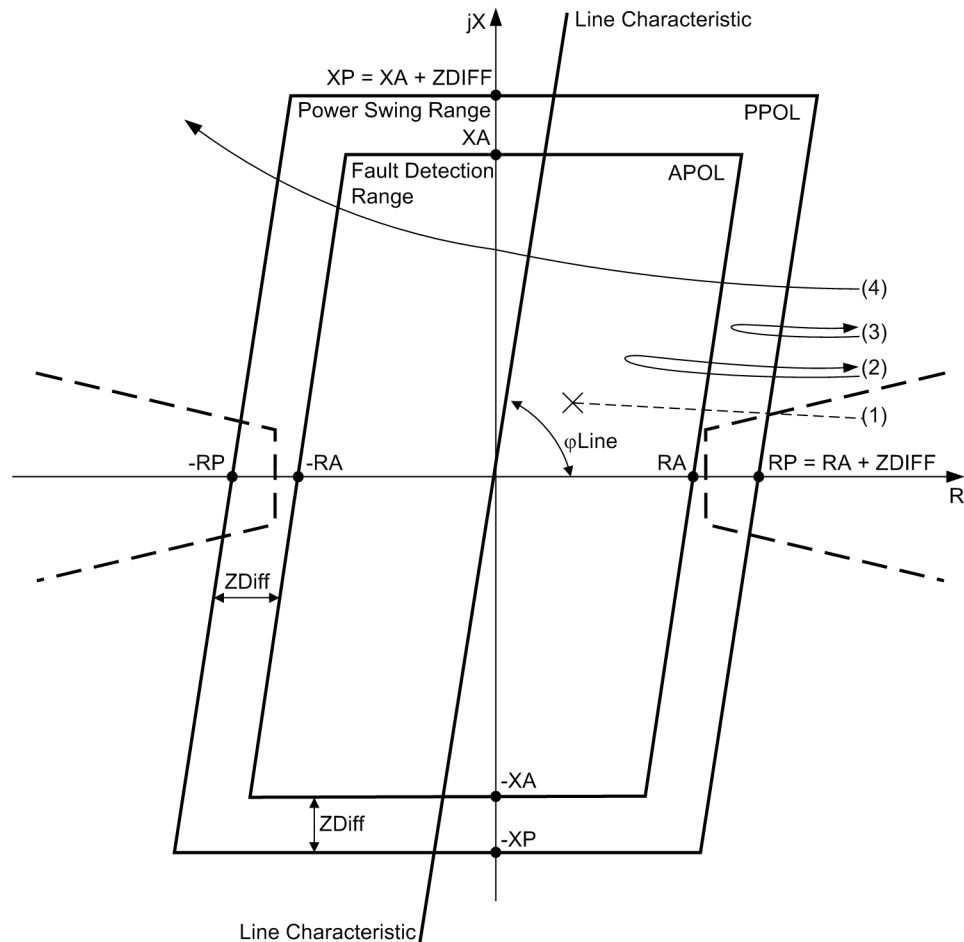

Figure 2-76 Pickup characteristic of the power swing detection for a polygon.
To detect a power swing, the rate of change of the impedance vectors is measured. The indication is triggered when the impedance vector enters the power swing measuring range PPOL (refer to Figure 2-76) and the other criteria of power swing detection are met. The fault detection range APOL consists of the largest setting values for R and X (polygon characteristic) or of the largest setting value for ZR (MHO characteristic) of all activated zones. The power swing zone has a minimum distance Z_{Diff} of $5 \, \Omega$ (at $I_N = 1 \, A$) or $1 \, \Omega$ (at $I_N = 5 \, A$) in all directions from the fault detection zone. In the event of a short-circuit (1), the impedance vector abruptly changes from the load condition into this fault detection range. However, in the event of a synchronous power
When the impedance vectors identified by the power swing detection exit the power swing characteristic PPOL, the sign of the R components in the vectors are checked to see if they are the same on exiting and entering the pickup polygon. If this is the case, the power swing process is inclined to stabilize. Otherwise, the vector passed through the power swing characteristic (loss of synchronism, case (4) in Figure 2-76). In this case power transmission is no longer possible. The device outputs an indication to that effect (No. 4163 „P.Swing unstab.“), provided that the parameter at address 2006 **PowerSwing trip** is set to **NO**. Indication No. 4163 „P.Swing unstab.“ is a pulse with a duration of approx. 50 ms, which can also be processed further via output relay, e.g. for a cycle counter or a pulse counter.